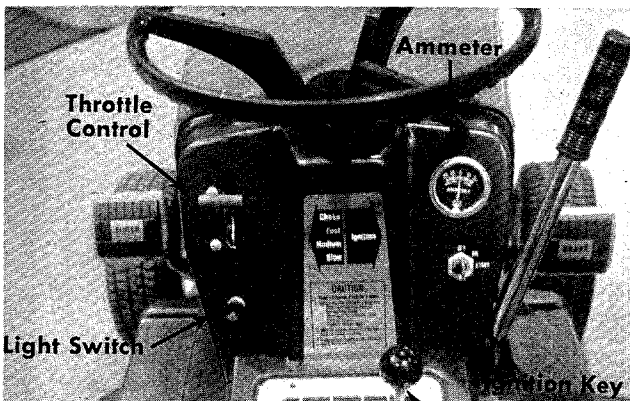

FIGURE 5. CONTROLS
a. **Throttle Control.** The throttle control is used to regulate the engine speed and choke the engine. The engine should be operated from $\frac{3}{4}$ to full throttle when operating the cutting deck or snow thrower (optional). See figure 5.
b. **Gear Shift Lever.** The gear shift lever is used to shift into one of four Forward Gears, NEUTRAL or REVERSE. See figures 5 and 6.
h. **Ammeter. (Electric Start Model Only.)** The ammeter registers the rate of battery charge or discharge. The ammeter should register on the plus side (+) when the engine is running in the fast position until the battery is completely charged. With a fully charged battery or with the engine idling the ammeter will not show a charge See figure 5.
i. **Light Switch. (Electric Start Only.)** Pull the light switch out to turn on the lights. The lights will only operate when the engine is running. See figure 5.
Electric Start. See figure 5. Turn the key to the START position to start the engine. When the engine is running, let the key return to the ON position. To stop the engine, turn the key to the left to the OFF position and remove it to prevent accidental starting.
Step 4. Set the throttle control in the CHOKE position. See figure 5.